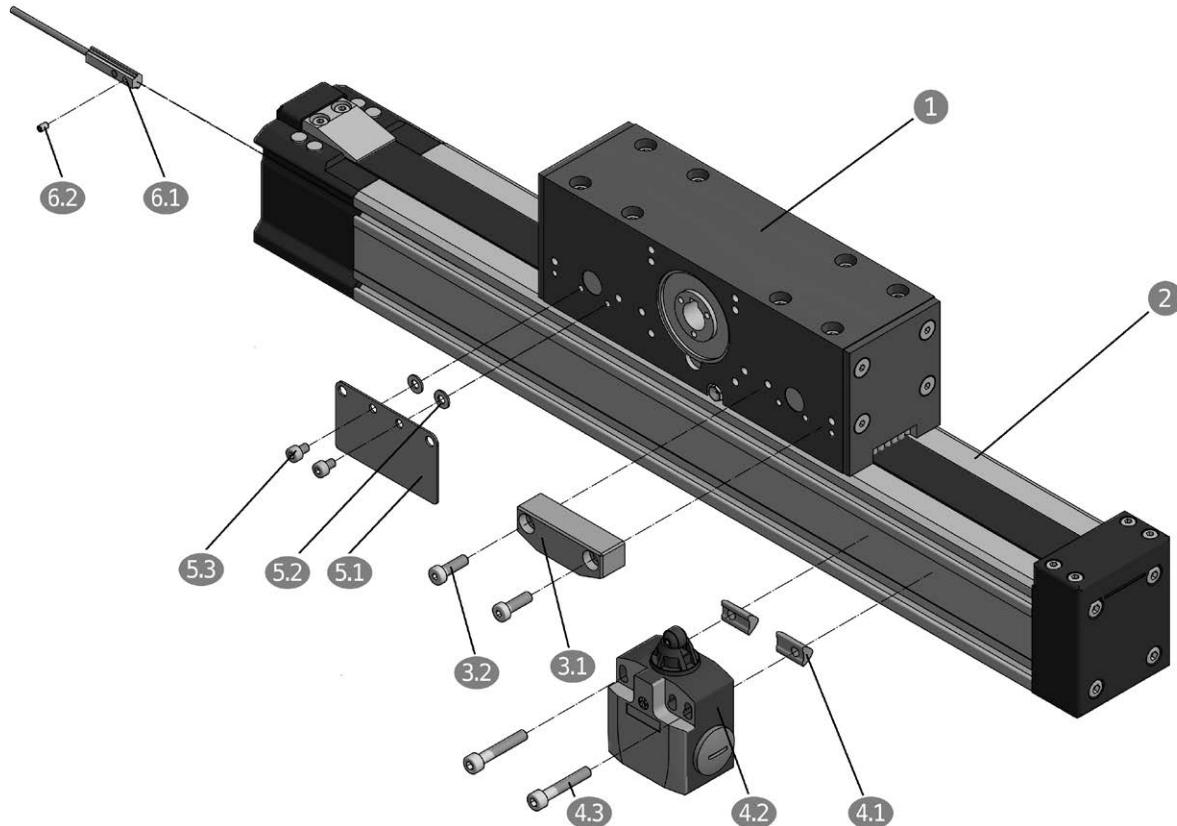

Figure 3.17 __ Mounting of limit switches on the profile of Linear Axis AXE_A with moved drive head
For the mounting of the limit switches and actuating elements the following steps must be performed according to Figure 3.17. The drive head ① and the profile ② of the linear axis are designed symmetrically so that mounting on both sides is possible.